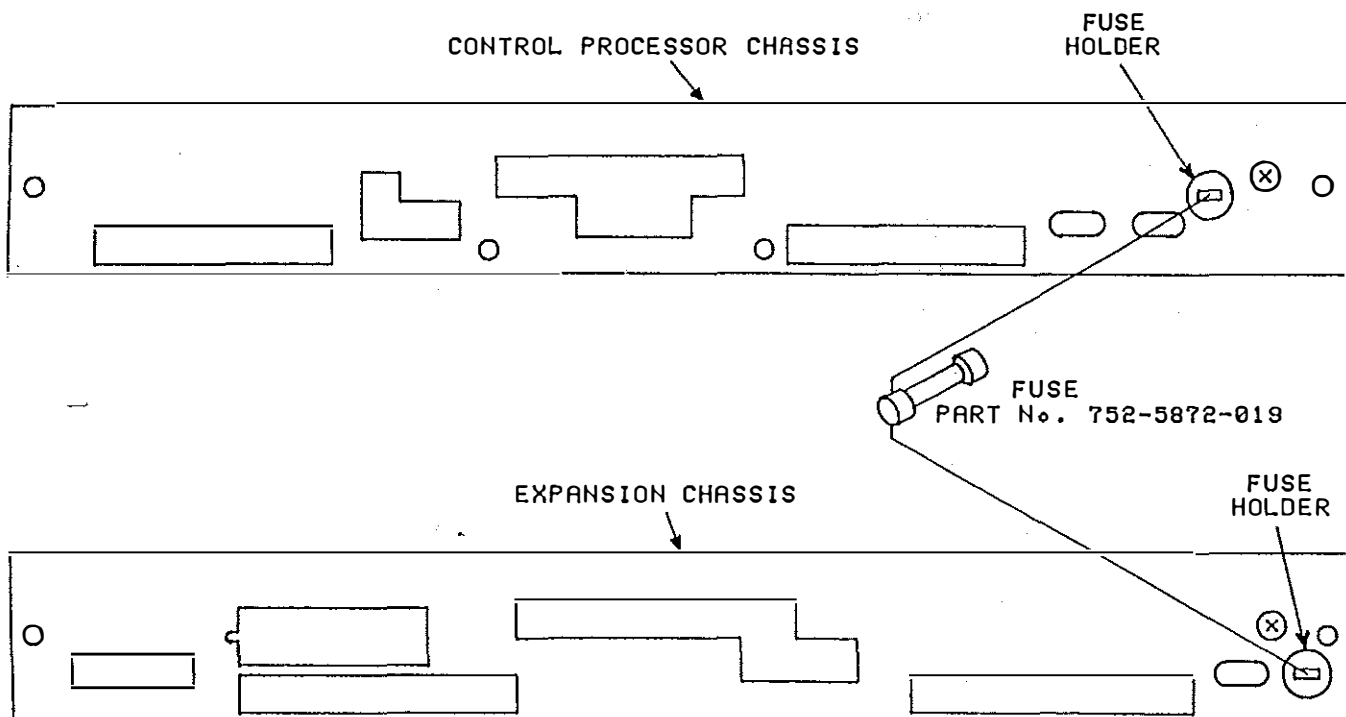

Fig. 3 - Digital Announcer Replaceable Parts and Fuse Locations
3.09 The location of the internal fuse on the Control Processor chassis is shown in figure 3. The Expansion Chassis and Line Expansion Chassis fuse locations are the same. To determine the integrity of the internal fuse, remove input power, unscrew the fuse retainer, measure electrical resistance of the fuse. If the fuse resistance is infinite, replace the fuse with a 1 ampere 3AG Slow Blow fuse; Northern Telecom, Cook Electric Division (NT/CED) Part No. 752-5872-019 or equivalent.
If the message is corrupted, the battery(ies) should be replaced (see figure 3).